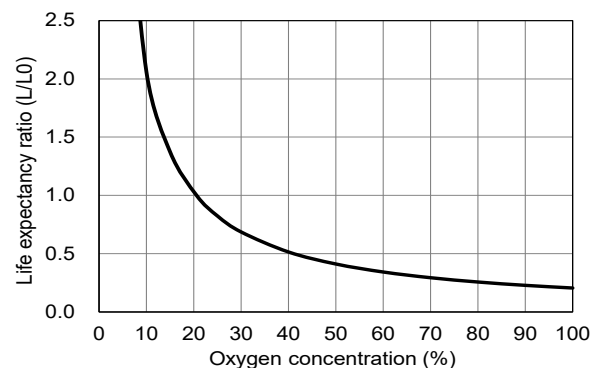

Fig. 8a - Relationship of life expectancy vs. O2 concentration (Lo = life at 20.9% O2)
Figure 8a shows the relationship between life expectancy and O2 concentration for KE-LF sensors. The Y-axis indicates the ratio of life expectancy in a given O2 concentration (L) to life expectancy in natural air (Lo). The greater the O2 concentration, the shorter the life expectancy. The influence of atmospheric pressure on life expectancy is estimated based on the O2 concentration in a given atmospheric pressure.